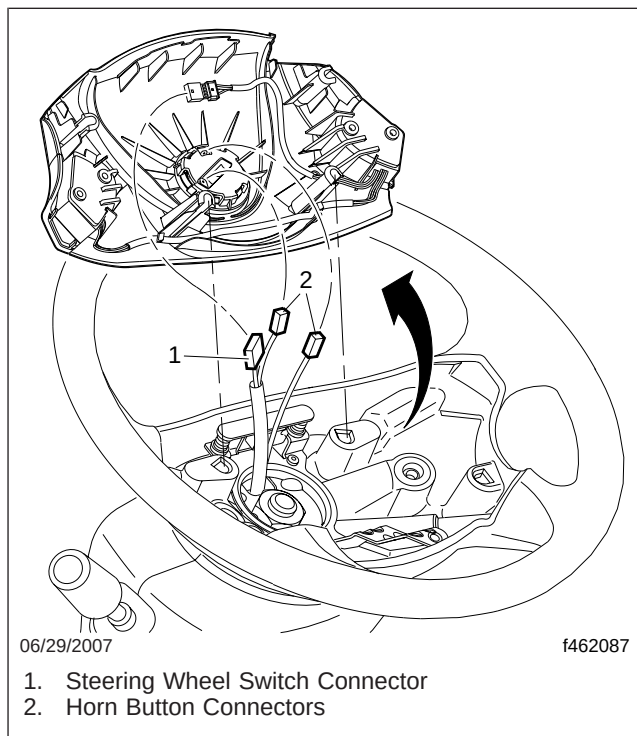

Fig. 1, Steering Wheel Cover Module and Connectors, No Airbag
3. Disconnect the horn and steering wheel switch connectors. See Fig. 1.